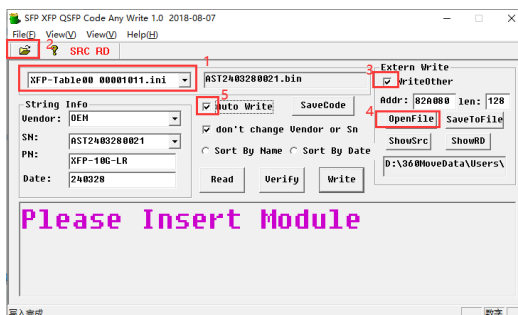

Figure 36
4.1 Select the configuration file "XFP-Table00 00001011" corresponding to the 10G LR optical module with the password "00001011" (as shown in Figure 36)
4.2 Click  Or select the menu: File->Select Code Source Folder, select See below,choose the folder where you saved the codes, Click OK. (as shown in Figure 36)
4.3 Check the "WriteOther" box (as shown in Figure 36)
4.4 Click "OpenFile" and select the Table02 file that needs to be written (as shown in Figure 36)
4.5 Check the "Auto Write" box (as shown in Figure 36)